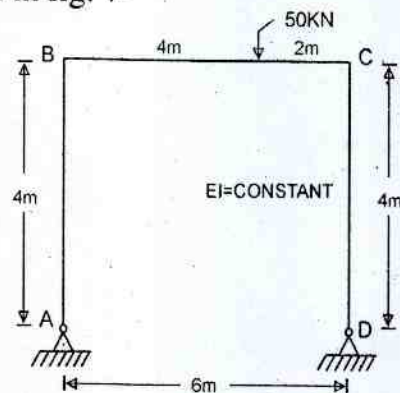

Fig.7
- Q.4 Using column analogy method, determine the end moments of the portal frame hinged at A and D as shown in fig. 7- [16]